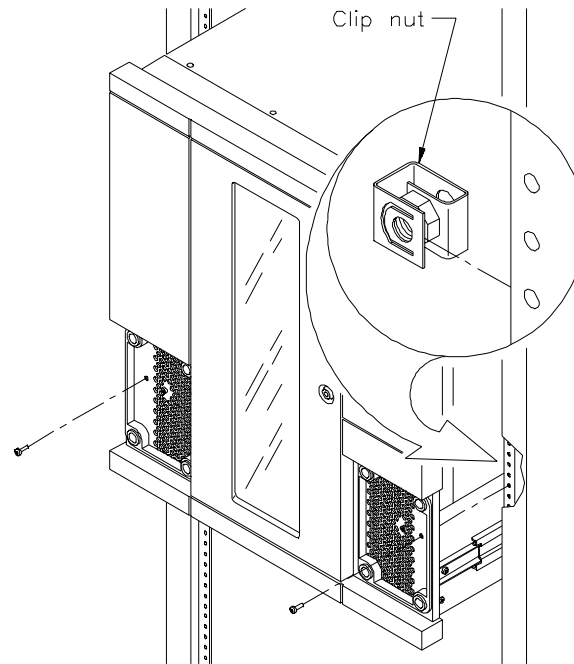

Figure 1-8 Securing the library in the rack
7. If the holes in the rack are not threaded, install a clip nut on each side of the rack, as shown in Figure 1-8.
8. Slide the library completely into the rack. Use a T-25 TORX driver to insert the two 10-32 \times 1.0 pan head screws on the front panel, as shown in Figure 1-8. These screws prevent the library from sliding out of the rack.